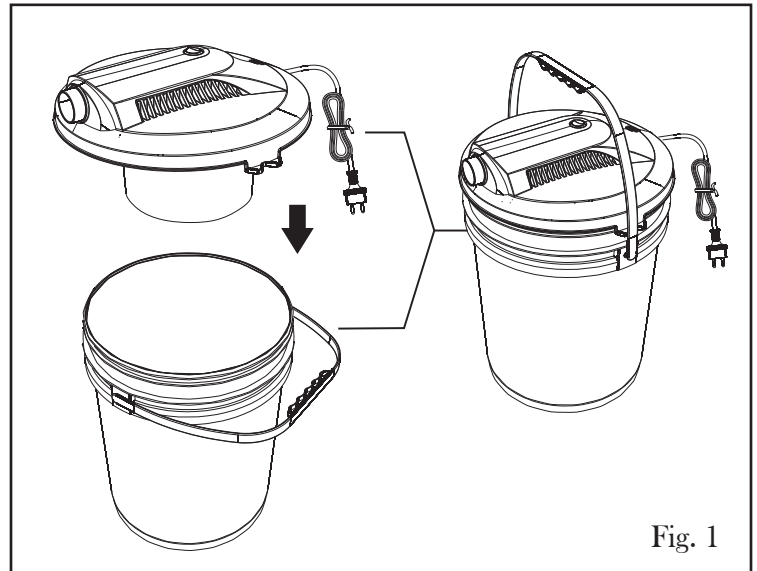

Fig. 1
2. Place the vacuum onto the bucket (Fig. 1).